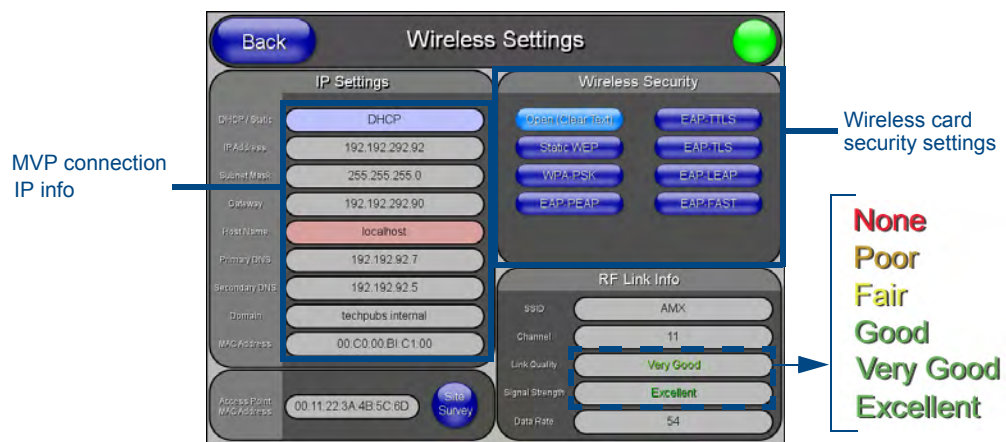

FIG. 21 Wireless Settings page (showing a sample unsecured configuration)
1. Press the **Wireless Settings** button (located on the lower-left) to open the *Wireless Settings* page (FIG. 21).
- The descriptions are **None, Poor, Fair, Good, Very Good, and Excellent** (FIG. 21).